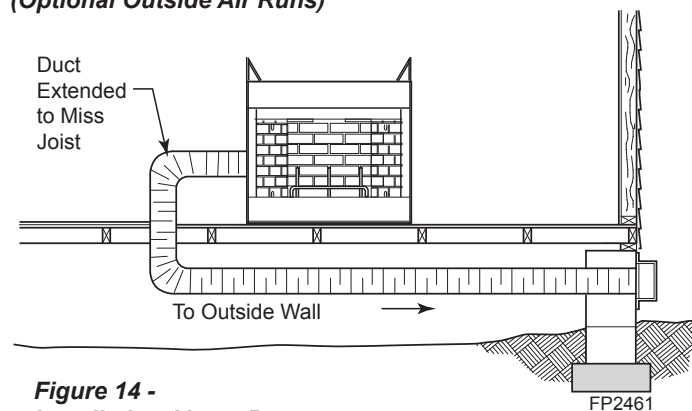

**Figure 12 -
6. Avoid extremely long runs and numerous turns in the duct leading from the fireplace to the combustion air assembly. These conditions increase the resistance to the free flow of air through the duct. Refer to Figures 12 through 15 for methods of installing the outside air for combustion assemblies.